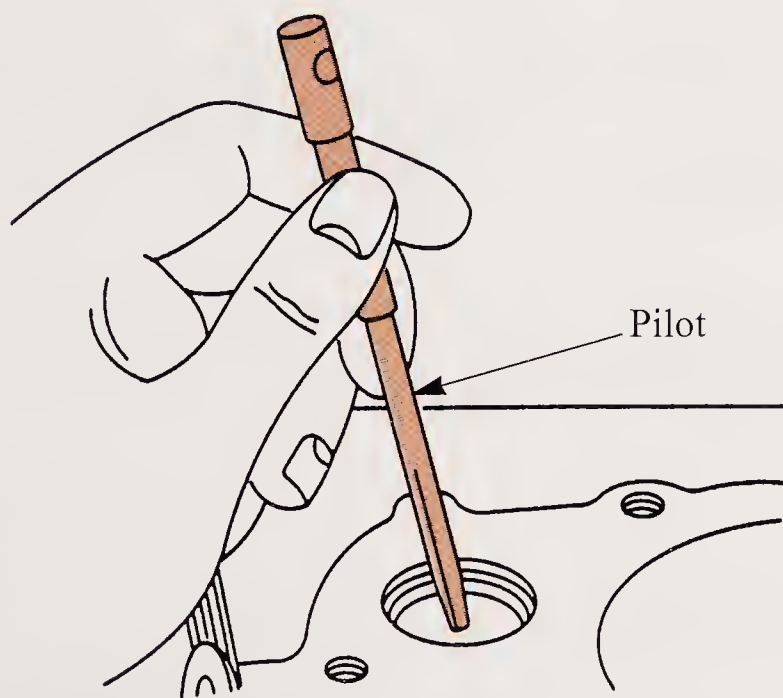

Figure 17-51. Pilot rod being inserted in valve guide. (Briggs & Stratton Corp.)
have to be installed. To do so will require a pilot to be inserted into the valve guide as shown in **Figure 17-51**. A counterbore tool of correct diameter will be needed to cut a recess for the valve seat insert. See **Figure 17-52**. The counterbore cutter in **Figure 17-53** is designed so it will cut only to the correct depth. If another tool is used, a depth micrometer will be necessary to measure depth. Do not cut too deep.
2. Insert pilot in valve guide. See **Figure 17-51**.